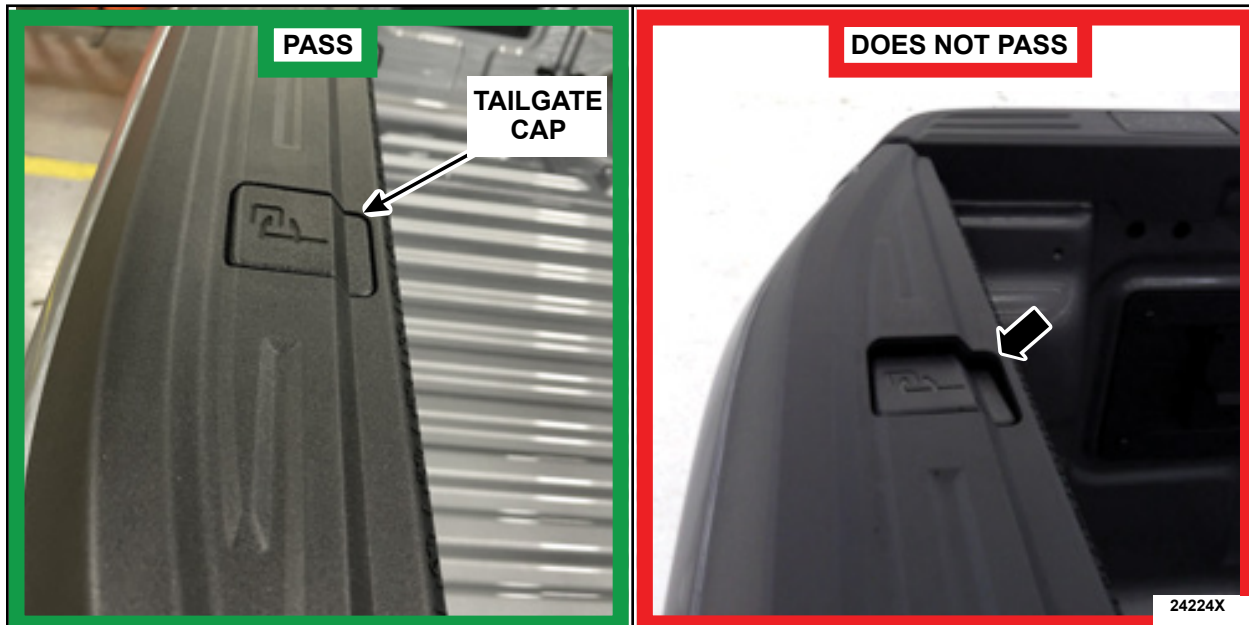

FIGURE 11
17. Press in on the tailgate cap and then release. Verify the cap returns to the original position and is flush. See Figure 11.